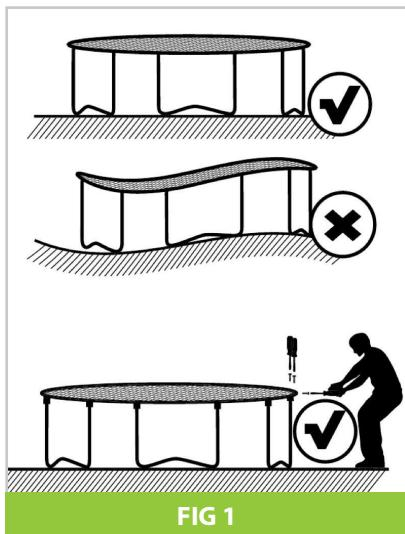

FIG 1
- Make sure the trampoline is placed on level ground. Uneven ground surfaces may cause the trampoline frame to warp (FIG 1).